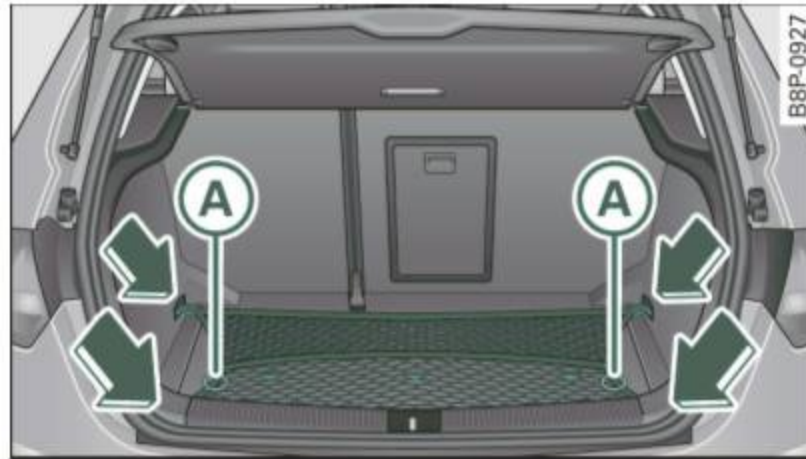

Fig. 82 Luggage compartment: cargo net
- Engage all four hooks into the fastening eyes ⇒ fig. 82.